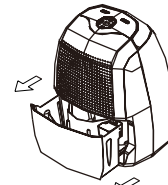

Fig. 10
- Pull the water bucket out as shown in Fig.10.